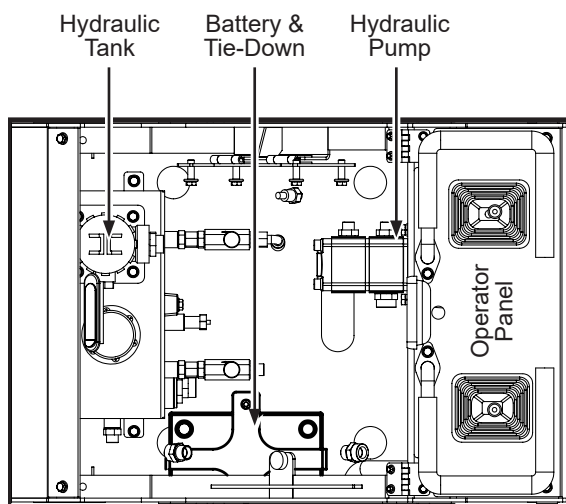

Fig. 13 - Top view, Machine Interior
2. Locate the keys (see previous note about *Keys to the access door and ignition*), and unlock the main Access Door (17).
5. Inspect the Oil Sight Glass on the Hydraulic Tank (See Fig. 13) located at the base of the machine, in the front.